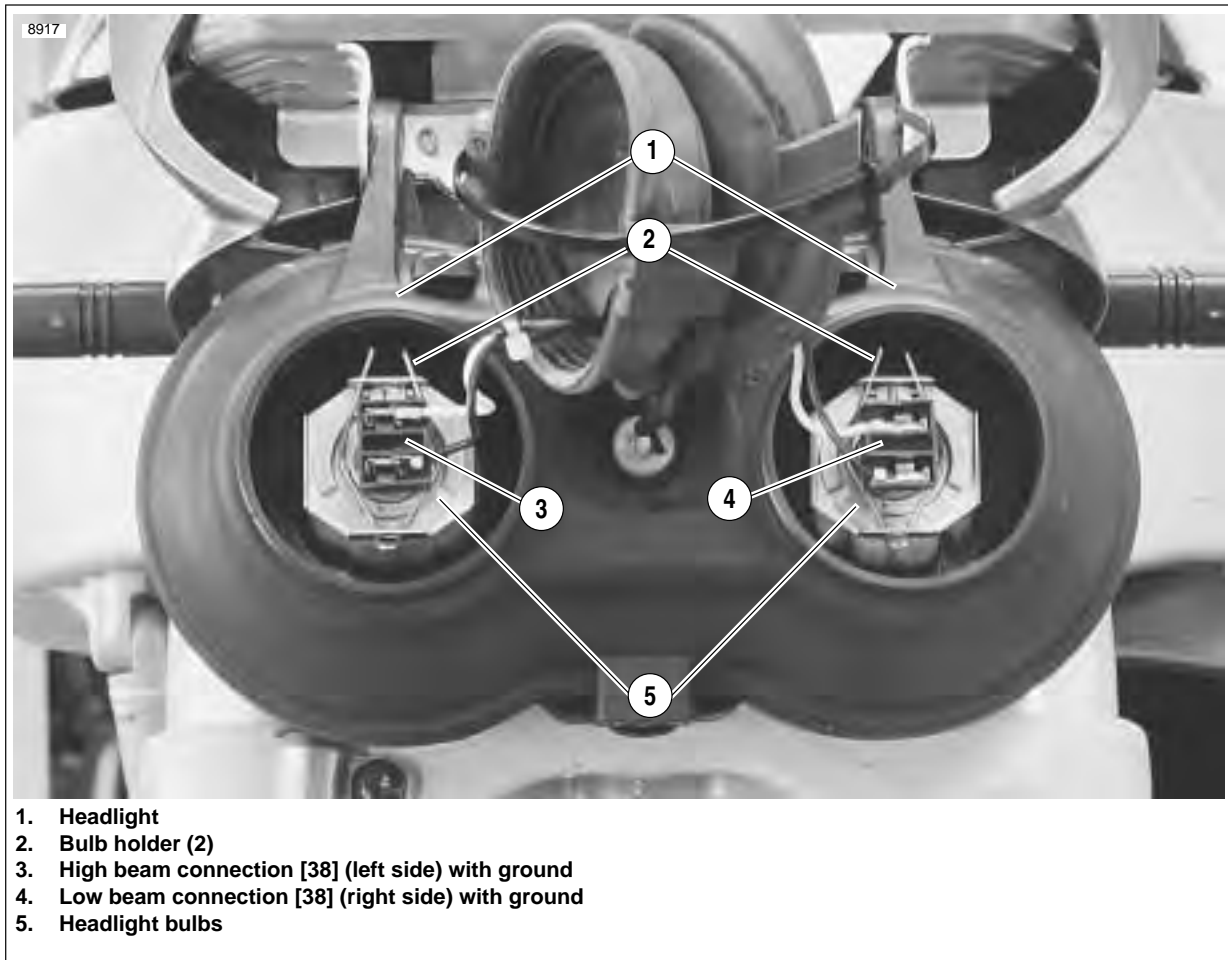

Figure 7-47. Headlight Assembly/Rear View
6. See Figure 7-47. Remove rubber boot from headlight housing.
7. Unplug headlight bulb connectors (3) and/or (4).
8. Release bulb holder (2) from headlight housing clips.
1. See Figure 7-47. Align tabs on bulb (5) with tabs on headlight (1). Insert bulb.
2. Close the bulb holder (2).